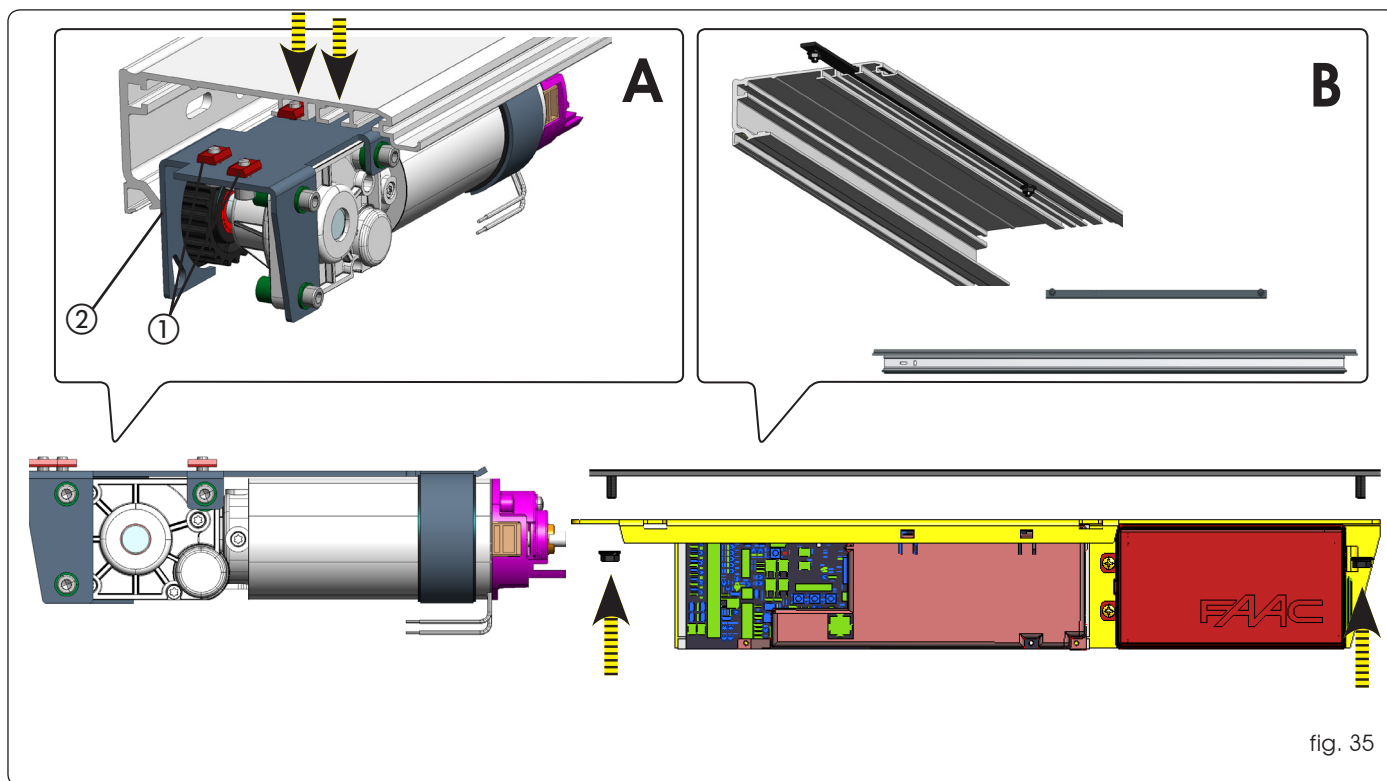

fig. 35
Then insert the electronics module and secure it using the two rod bolts. (fig.35 B ① ②)
Insert 3 small plates sideways of the profile and secure the motor with the 3 screws to the support profile (fig.35 A ①).
On the motor bracket there is a gauge with a belt lift-proof function (fig.35 A ②)